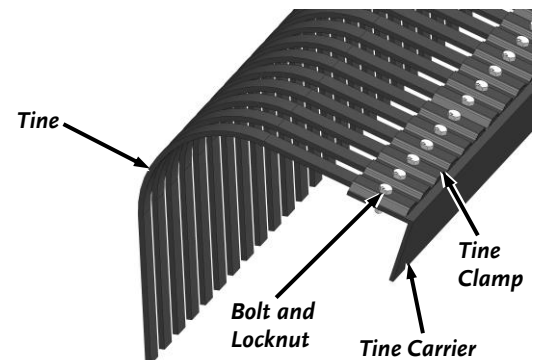

Figure 18
2. Remove the Bolt and Locknut that secures the Tine to be removed using two 17mm Wrenches (**Figure 18**).